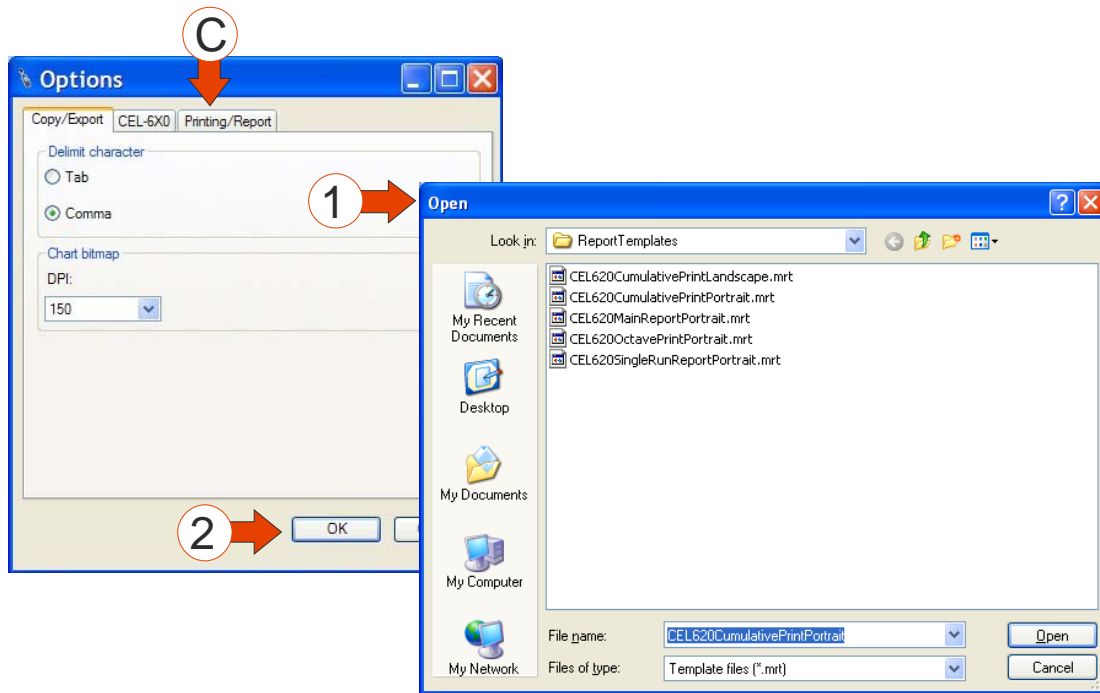

Figure 42 Printing Report Tab
B. REPORT TEMPLATE (Refer to Figure 42)